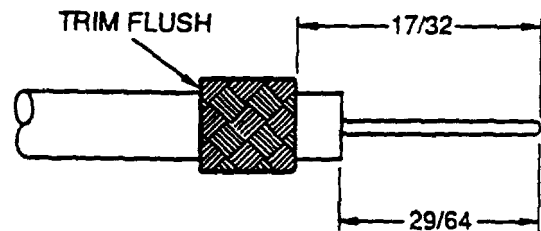

Figure 43. Length of Strip
d. As shown in Figure 43, fold braided shield back tightly over inner sleeve and trim braid flush with back end of sleeve. Strip 29/64-inch of insulation from center conductor allowing 17/32-inch between edge of braid and end of center conductor. Twist center conductor to prevent splayed wire strands.